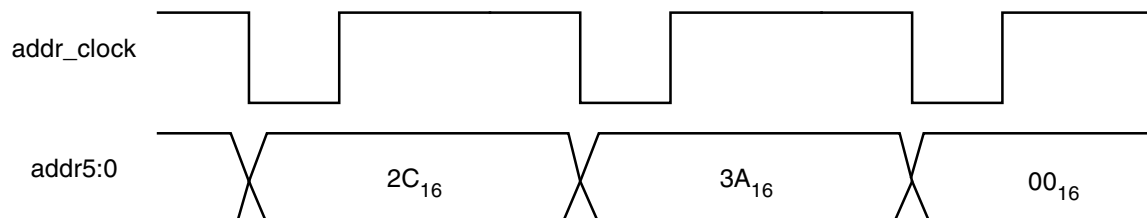

Figure 4b
- b) Given that the timing diagram for the input signals  $\text{addr\_clock}$  and  $\text{addr5:0}$  are as shown in Figure 4b, draw the timing diagram for the signals at X and Y. Label your timing diagram with the following four possible signal states: *driven low (DL)*, *driven high (DH)*, *charged low (CL)* and *charged high (CH)*.